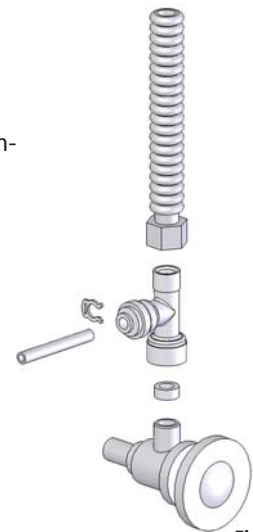

Fig. 1
4. Install the feed adapter into the angle stop. (Fig. 1)